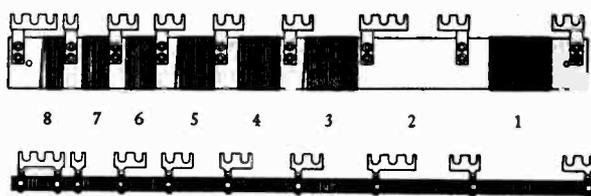

Fig. 3—A. C. Strip
- a. Open in section 7 of resistance strip. (See Fig. 3.)
21. Resistance Strip Values—Fig. 3, illustrates the two types of filament resistance strips mounted on the catacombs of the A. C. operated models. On recent production section No. 2 of this strip has